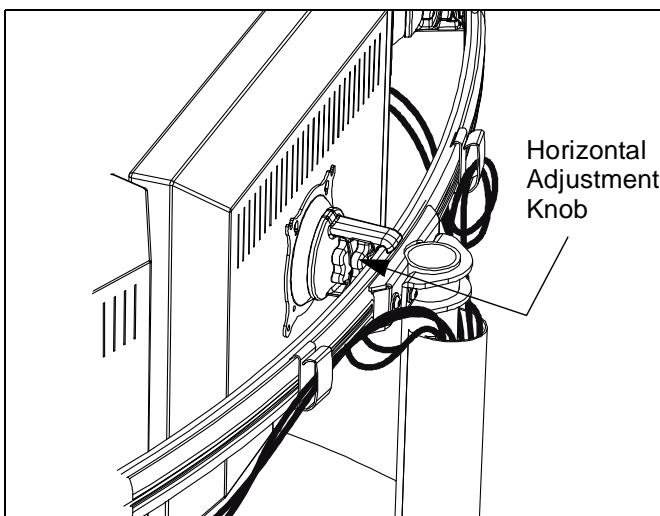

Figure 13: Display Horizontal Adjustment
1. Loosen Centris bracket rear adjustment knob (see Figure 13).